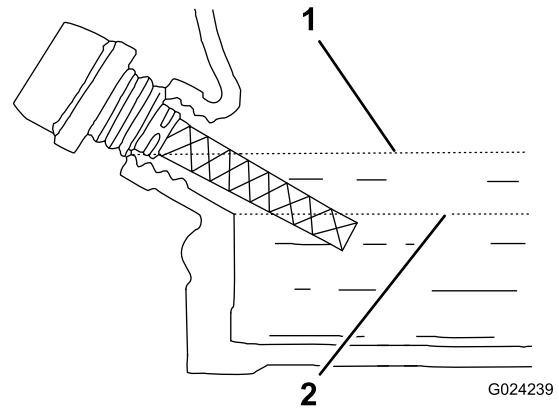

Figure 19
**Note:** If the oil level is near or below the lower-limit mark on the dipstick, add only enough oil to raise level to the upper-limit mark (bottom edge of the oil-fill hole); refer to Figure 19. Check the oil level again. Do not overfill the crankcase.